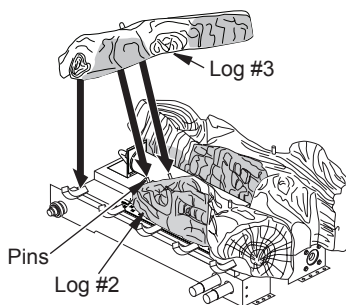

Figure 25 - Installing Log #3
3. Align hole in bottom of middle log (#3) with pin on log #2 (see Figure 25). The end of log #3 will rest on first grate finger on left (see Figure 25).